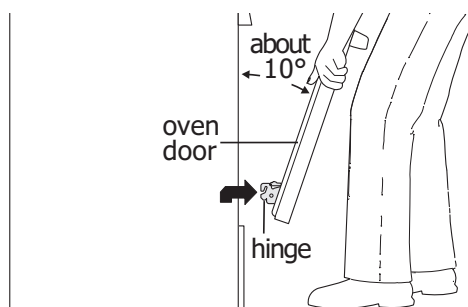
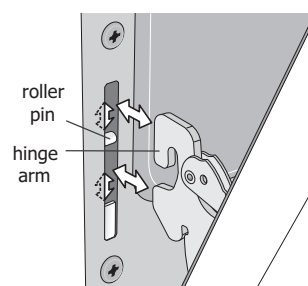

Figure 14: Holding door for removal
Figure 15: Replacement and location of hinge arm and roller pin
3. Firmly grasp both sides of oven door along the door sides. Do not use the oven door handle (See Figure 14).
4. Close the door to approximately 10 degrees from the door frame (See Figure 14).
5. Lift the oven door hinge arms over the roller pins located on each side of the oven frame (See Figure 15).
1. Firmly grasp both sides of oven door along the door sides. Do not use the oven door handle (See Figure 14).
2. Holding the oven door at the same angle as the removal position, seat the hook of the hinge arm over the roller pins located on each side of the oven door frame (See Figure 14 and Figure 15). The hook of the hinge arms must be fully seated onto the roller pins.